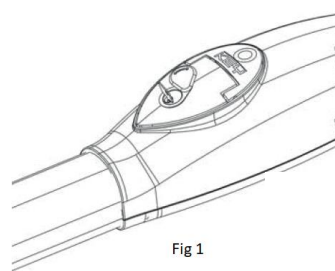

Fig 1
- Open small cover and insert and turn special key at top of operator. (Fig 1)